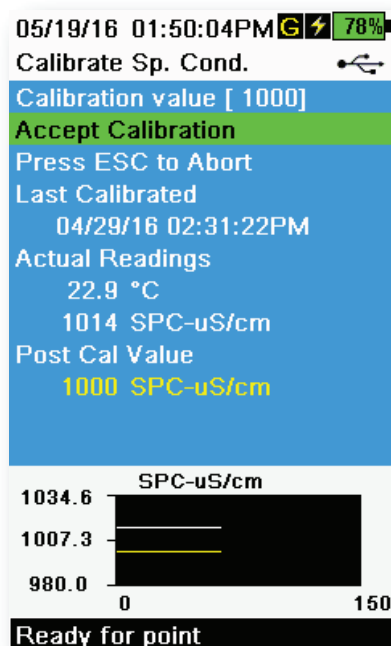

Figure 45 Calibrate specific conductance
8. Observe the actual measurement readings for stability (white line on graph shows no significant change for 40 seconds), then select **Accept Calibration** (Figure 45). "Calibration successful!" will be displayed in the message area.